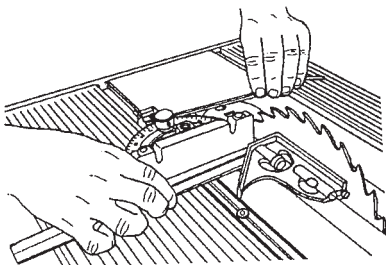

Figure B-83
- a. Use a long Allen wrench to loosen the lock knob (268) and adjust the miter gauge so it is perpendicular to the saw blade, then tighten the lock knob. See Figure B-83.